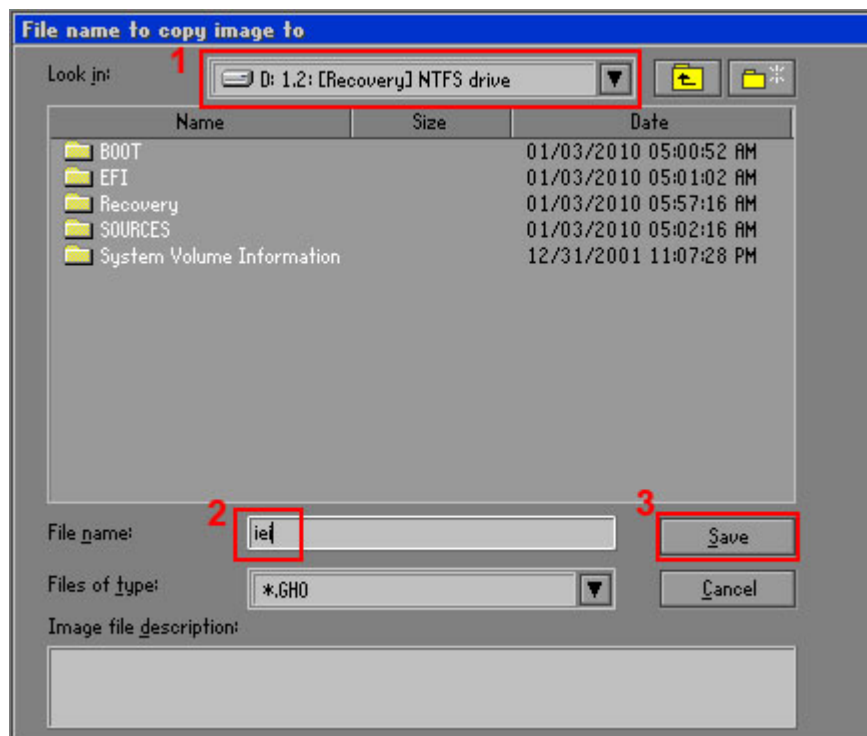

Figure B-16: File Name to Copy Image to
**Step 7:** Select **1.2: [Recovery] NTFS drive** and enter a file name called **iei** (Figure B-16). Click **Save**. The factory default image will then be saved in the selected recovery drive and named **IEI.GHO**.